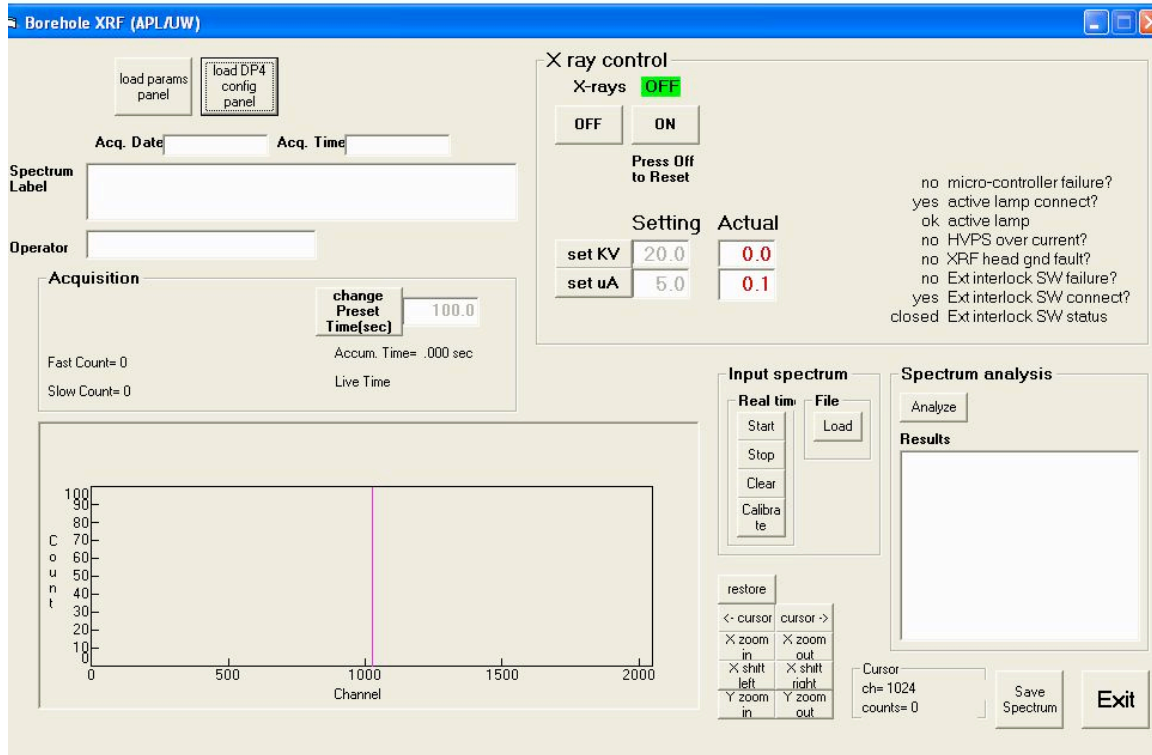

Figure 4. Main screen view upon starting the program “BoreholeXRF”
3. Start the program “BoreholeXRF”; the main screen appears (Figure 4).